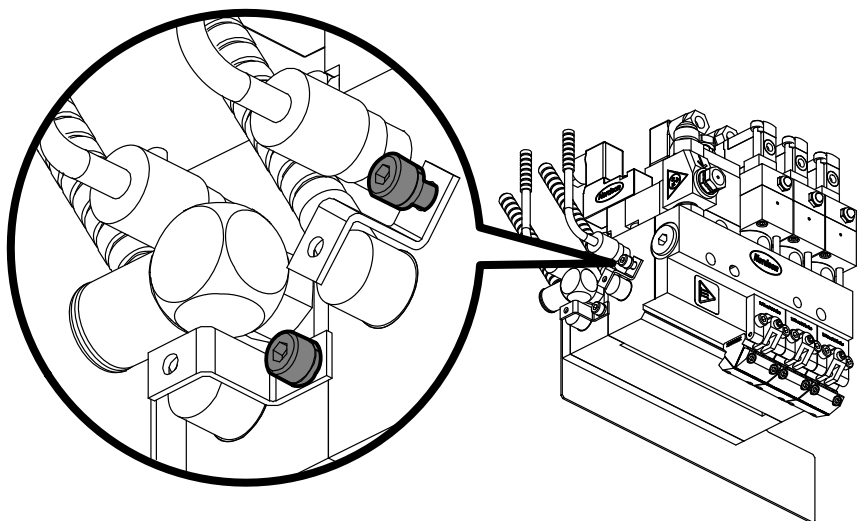

Figure 12: Heater retainer screw locations
3. See Figure 12. Loosen the heater retainer screw, rotate the heater retainer to one side, and remove the heater.